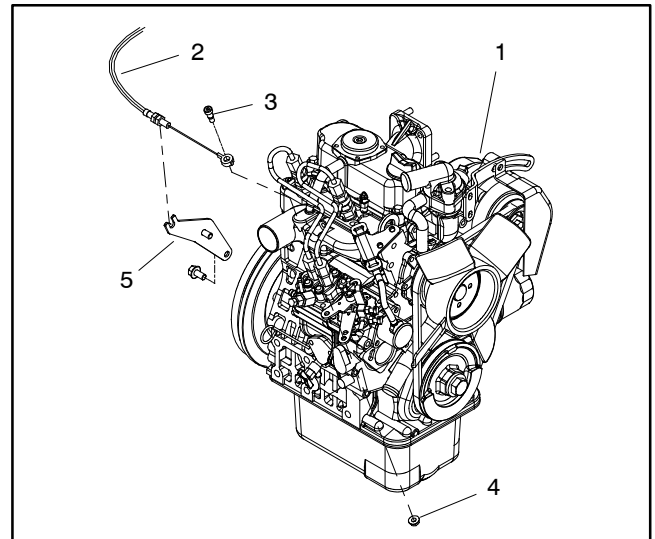

Figure 13
9. Remove shoulder bolt and flange nut that secure the throttle cable end to injector pump speed control lever (Fig. 13). Loosen nuts that secure throttle cable to cable mount. Position throttle cable away from engine.
7. Position throttle cable to engine. Secure the throttle cable end to injector pump speed control lever with shoulder bolt and flange nut. Tighten cable nuts to secure cable to cable mount (Fig. 13). Check throttle cable adjustment (see Adjust Throttle Cable in the Adjustments section of this chapter).